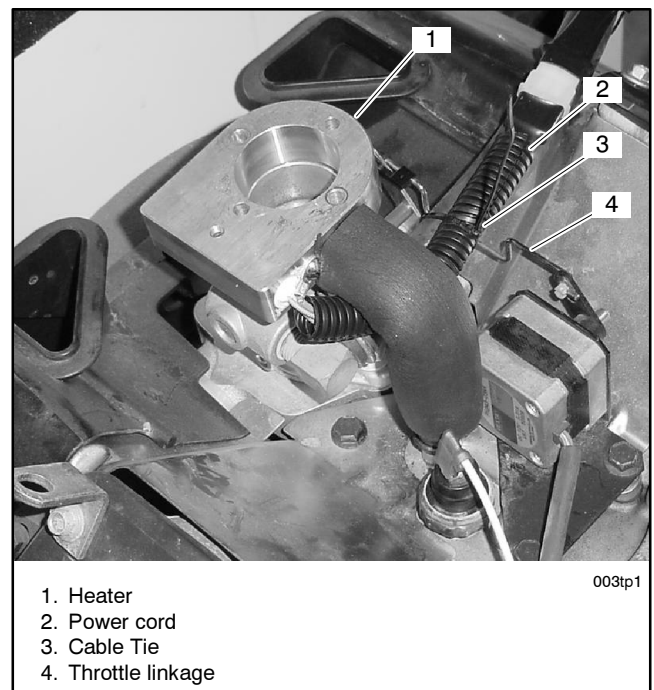

Figure 10 Heater Location
- 5.2 Place the heater on the carburetor. Do not use a gasket. Route the power cord along the fuel line. See Figure 10.
Note: Use cable ties to attach the heater power cord to the fuel line. Make sure that the power cord does not interfere with the free operation of the throttle linkage. See Figure 10.